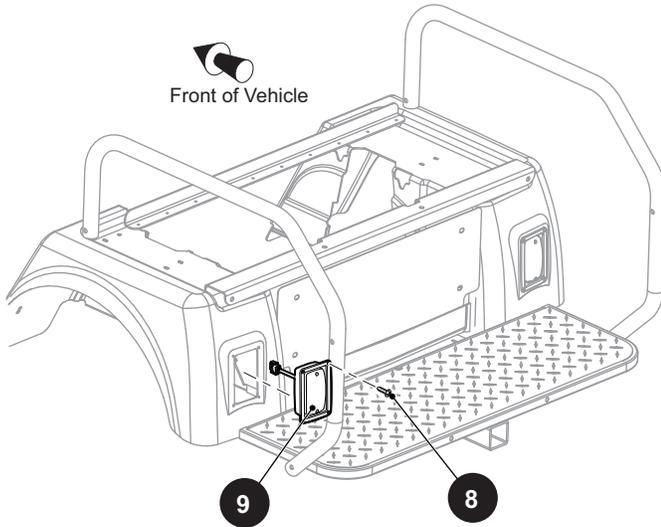

Fig. 8 Tail Light Replacement
1. Drill out the rivets (8).
2. Disconnect the wiring harness from the tail light assembly (9).
4. Install new rivets (Ref. Fig. 8).